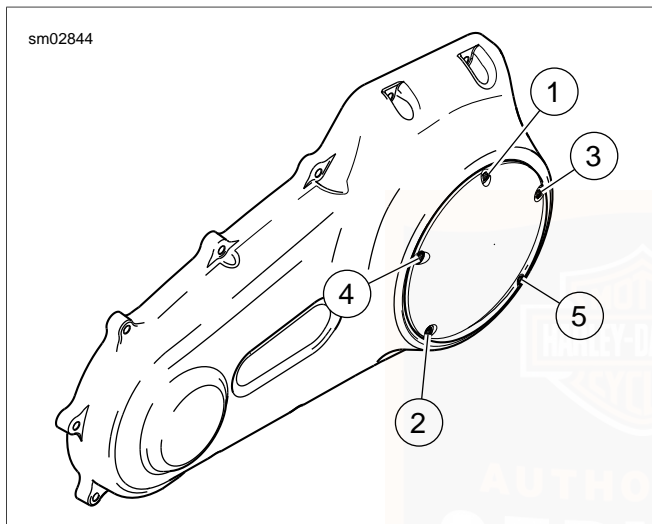

Figure 32. Clutch Cover Torque Sequence
- c. See Figure 32. Insert screw (with captive washer) through clutch inspection cover and carefully thread it into the top cover screw hole.
- e. Alternately tighten screws to 84-108 **in-lbs** (9.5-12.2 Nm) following torque sequence shown in Figure 32.